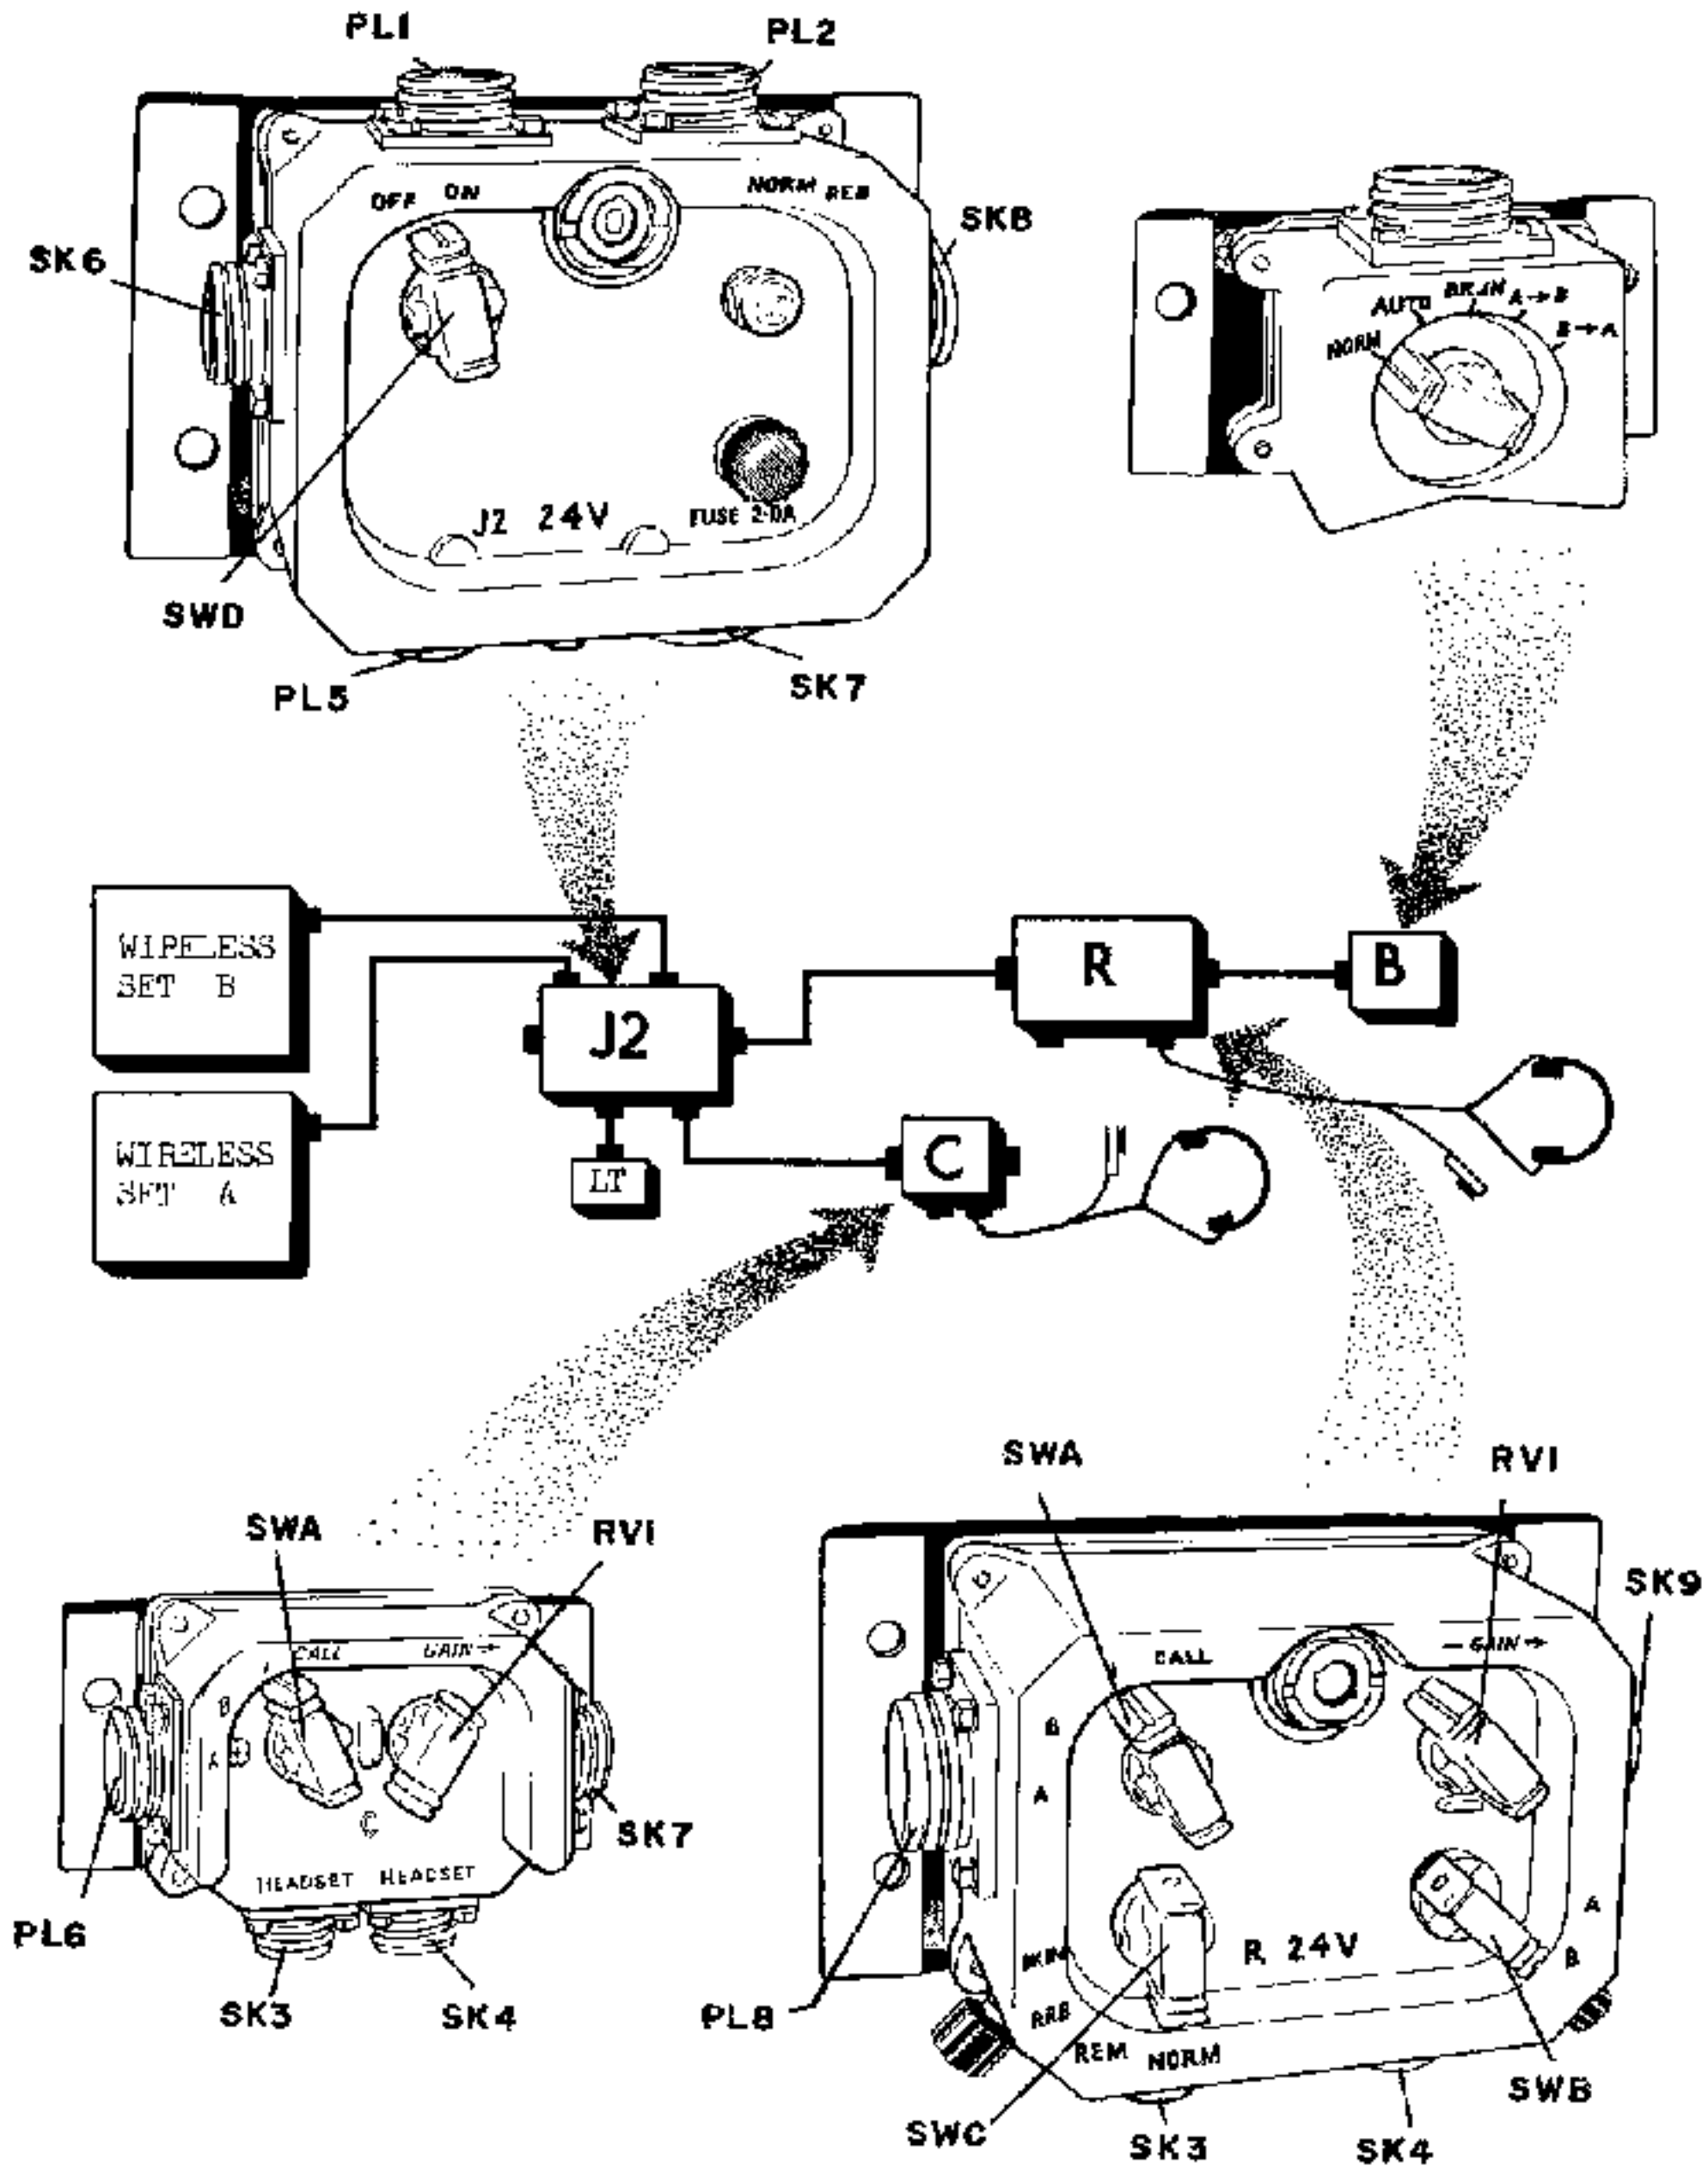

FIG 19-LOCAL REBROADCAST WITH A TWO SET INSTALLATION
(Fig 19)
- (d) Remote control of either wireless set through a remote control unit 'R'. This arrangement is not shown in Fig. 19.